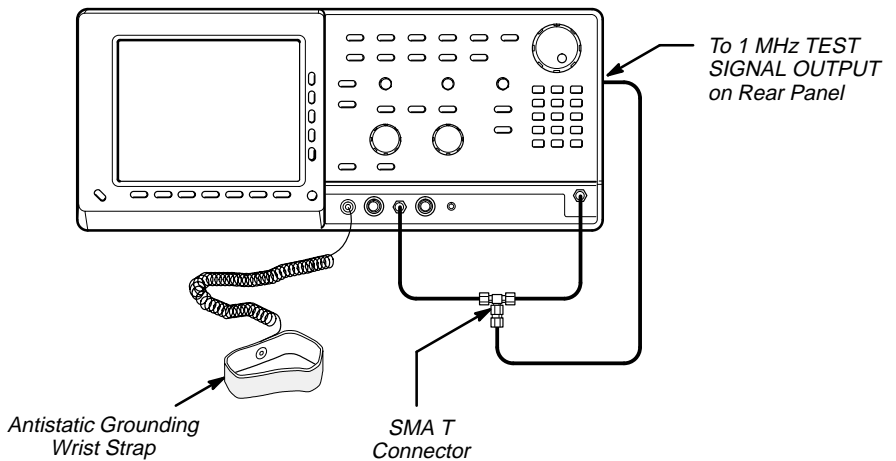

Figure 1-3: Universal Test Hookup for Functional Tests
- a. *Hook up the signal source:* Connect one end of an SMA cable to the **1 MHz TEST SIGNAL OUTPUT** on the rear panel. Connect the other end of the cable to the T connector. Connect the T connector, through SMA cables, to the **CH 1** input and the **EXT TRIGGER INPUT** on the front panel. (See Figure 1-3 on page 1-6.)
- a. *Hook up the signal source:* Connect one end of an SMA cable to the **1 MHz TEST SIGNAL OUTPUT** on the rear panel. Connect the other end of the cable to the T connector. Connect the T connector, through SMA cables, to the **CH 1** input and **EXT TRIGGER INPUT** on the front panel. (See Figure 1-3 on page 1-6.)